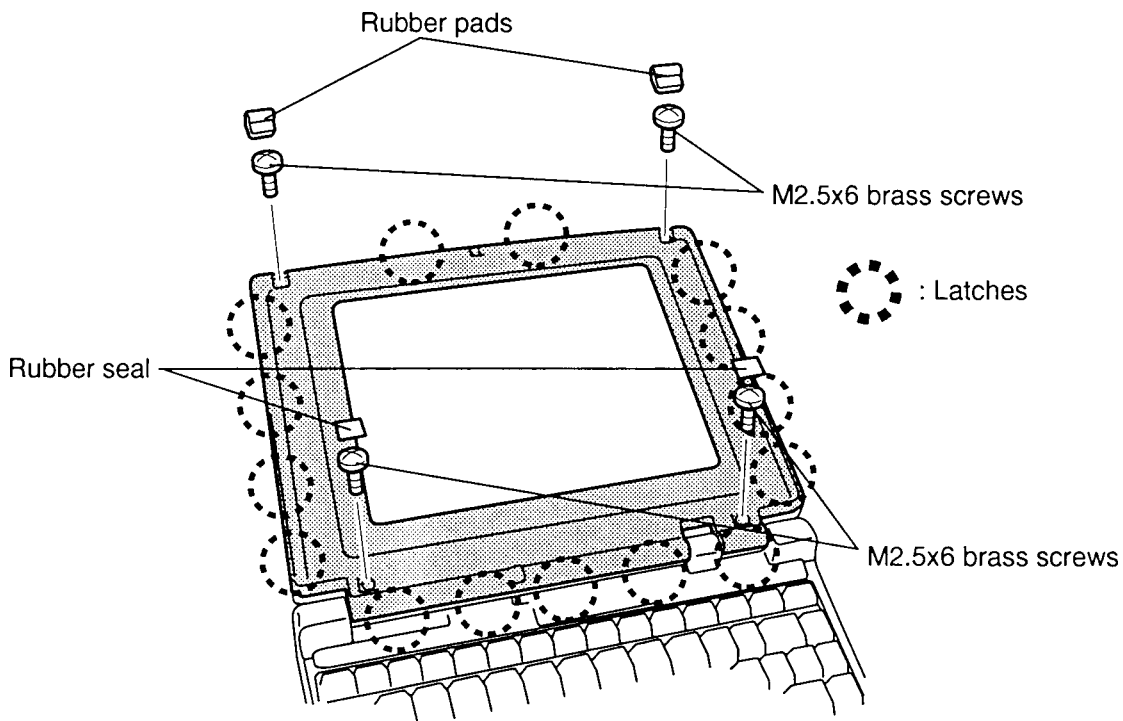

Figure 4-24 Removing the Display Mask
To remove the T3600CT's display mask, follow the steps below and refer to Figure 4-24.
3. Remove **two rubber seals** from the display hinges and **two rubber pads** from the top of corners of the display to expose screws securing the display mask (Figure 4-24).
4. Remove **two brass M2.5x6 screws** at the bottom corners of the display mask, and **two brass M2.6x6 screws** at the top two corners (Figure 4-24).
6. Continue around the plastic cover to release **two more latches** at the top, **four latches** on each side and **five latches** at the bottom (Figure 4-24).
To install the T3600CT's display mask, follow the steps below and refer to Figure 4-24.
1. Set the **display mask** in place and press firmly to secure the latches. Start at the bottom **five latches** and work your way around the sides (**four latches** on each side) and, finally, secure the **three latches** at the top (Figure 4-24).
2. Secure **four brass M2.5x6 screws**, one at each corner of the display cover (Figure 4-24).
3. Replace the **two rubber pads** and **two rubber seals** covering screws at the top two corners and hinges (Figure 4-24).